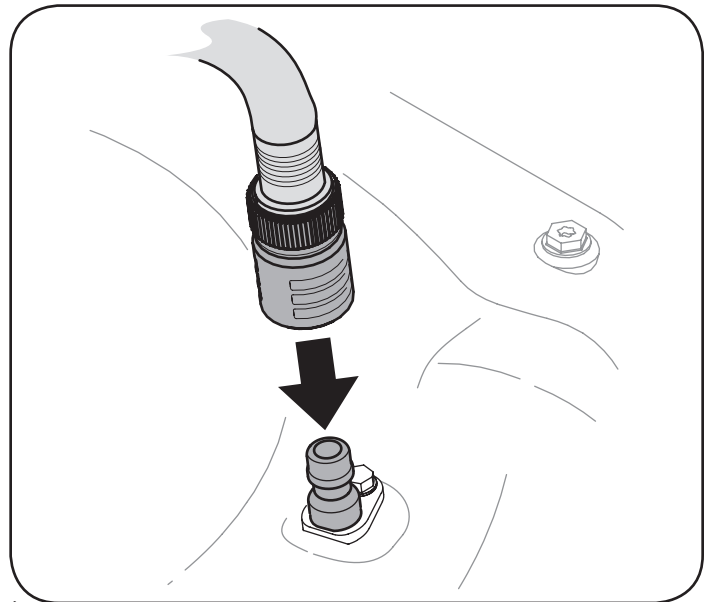

Figure 14
3. Attach garden hose with the deck wash nozzle to the water port on your deck's surface. See Figure 14.